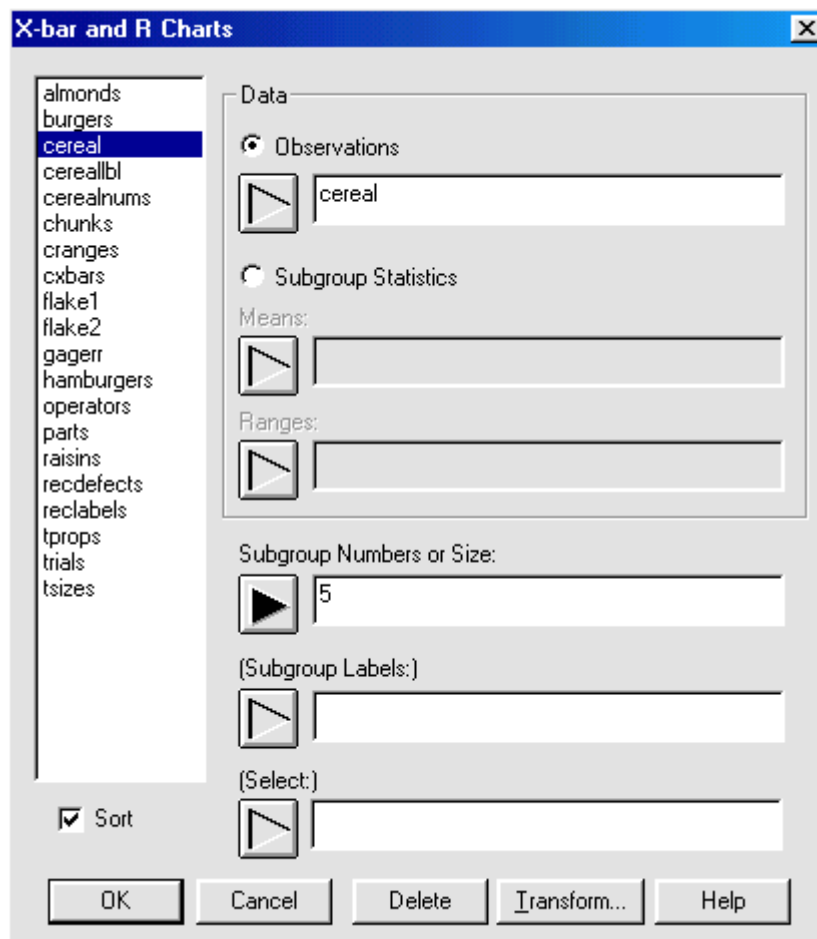

Figure 3-1. X-Bar and R Chart Analysis Dialog Box
1. Choose SPECIAL... QUALITY CONTROL... VARIABLES CONTROL CHARTS... X-BAR AND R... from the Menu bar to display the X-bar and R Charts Analysis dialog box shown in Figure 3-1.